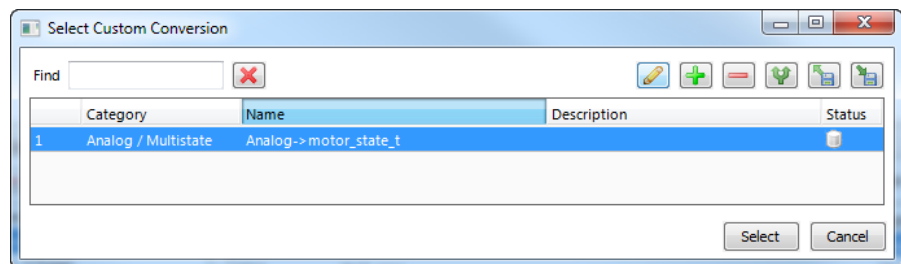

Figure 43: Choose a custom conversion.
8. To add a new conversion to this item, click on the  button. A dialog opens, which displays the matching adaptors already available in the library as shown in Figure 43.